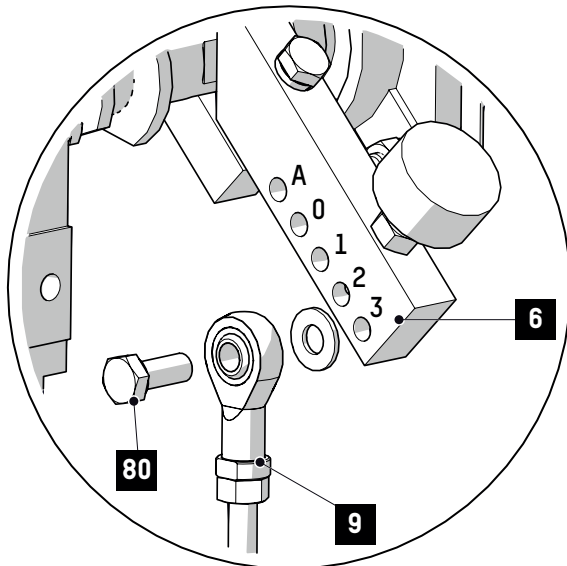

Fig.1
- Note down the position of the upper location of the spring on the hub (6) ⇒ Fig. 1.